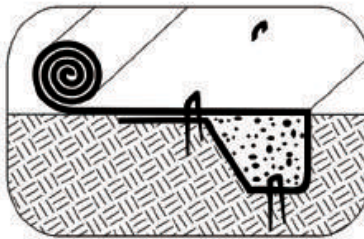

Fig. 4 Initial anchor trench for channels
- Step 1:** Dig a 300mm x 300mm initial anchor trench at the upstream end (Fig. 4). If there is concentrated flow at channel entrance, it is recommended that the initial anchor trench be made at least 300mm upstream from the pipe opening. It is also recommended to adopt measures to reduce the velocity of flow at pipe opening.